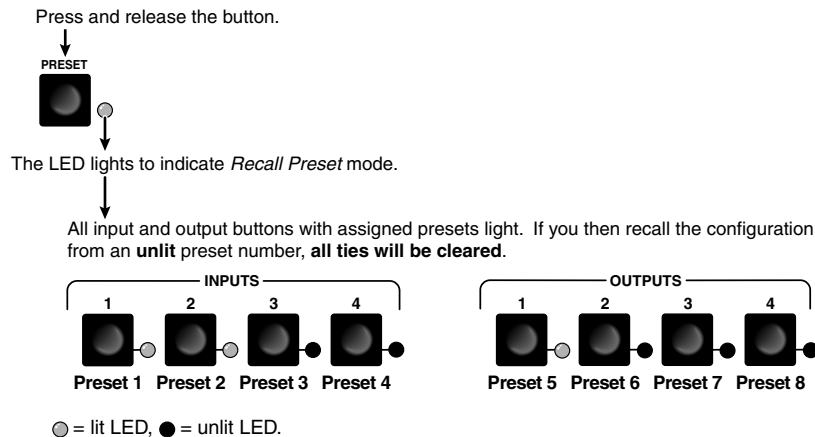

Figure 3-28 — Select Recall Preset mode, MVX 44
1. Press and release the Preset button (figure 3-28).